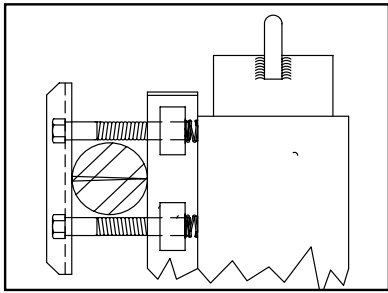

FIG. 2b
- b. **1-1/4" rungs:** mount bracket with flanges away from ladder rungs. Washers are not necessary. (Fig. 2b)